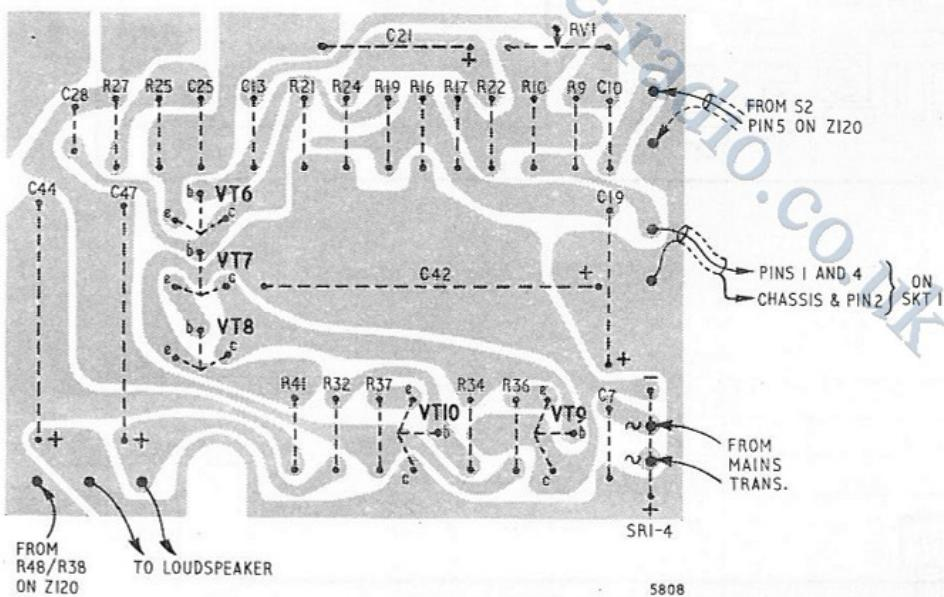

Fig. 6b
- 7 For a complete removal of the chassis, disconnect the tape socket leads from the audio unit A784 (see Fig. 6b). Disengage the ferrite rod aerial from its mounting bracket and disconnect the internal VHF aerial leads.